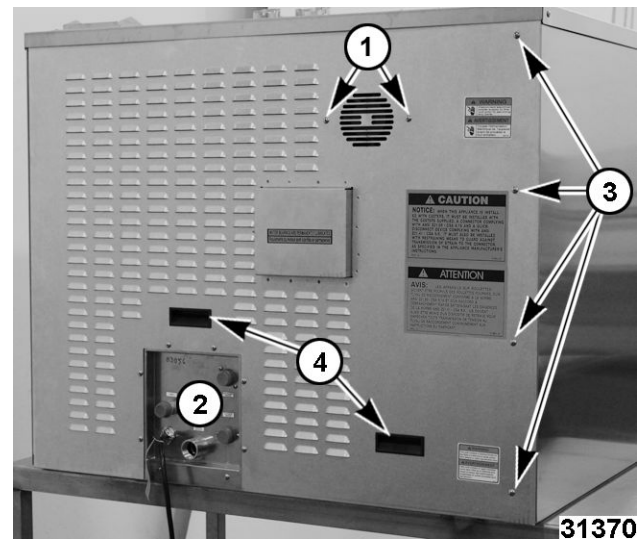

Fig. 4
2. Remove two fan screws (1, Fig. 4).
3. Remove six utility panel screws (2, Fig. 4).
5. Remove four rear panel screws (3, Fig. 4).
6. Lift with handles (4, Fig. 4) to remove.